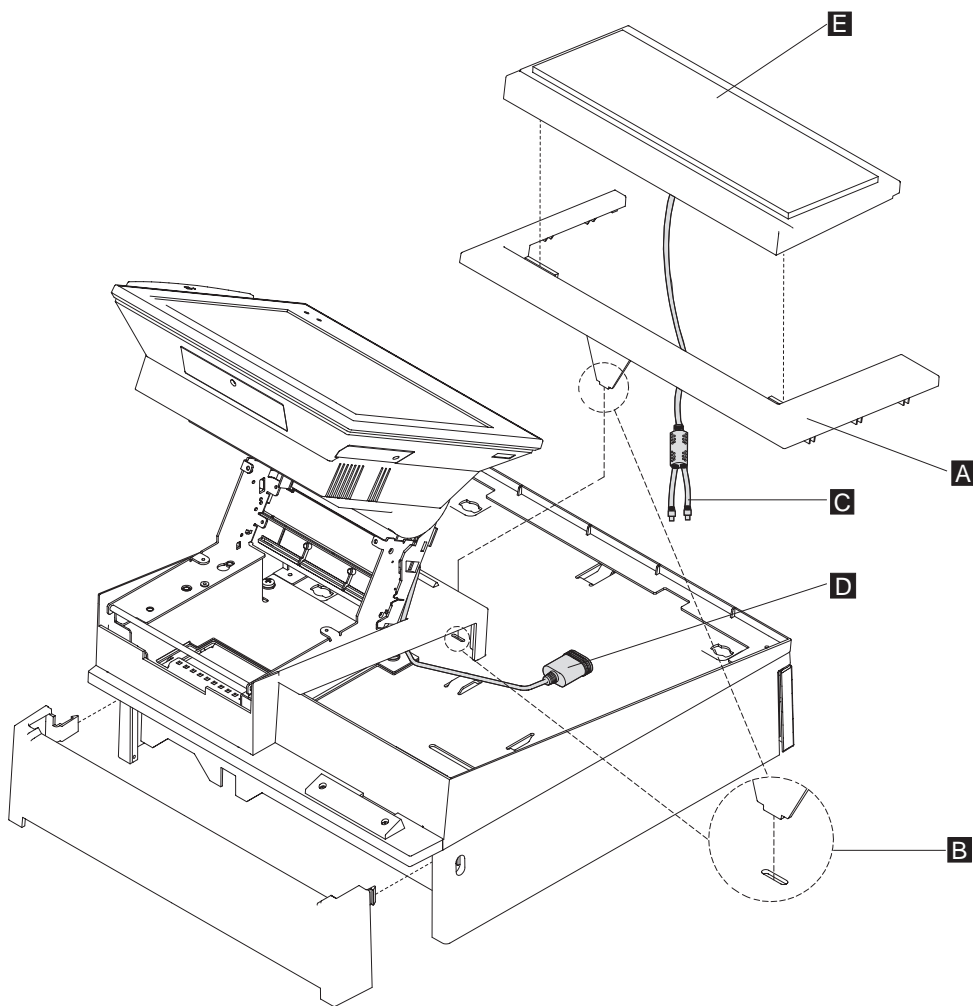

Figure 42. Removing the keyboard from the integration tray
- a. Remove the keyboard **E** from the keyboard integration tray by lifting the keyboard up and off the keyboard integration tray, as show in Figure 42 on page 44.
- b. Remove the keyboard filler panel **A**. For reassembling, observe that the keyboard filler panel is inserted into the slot on integration tray, as show in exploded view **B**, as show in Figure 42.